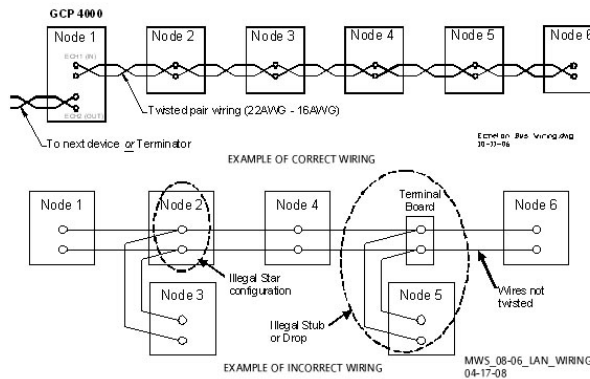

Figure 16: Echelon LAN Wiring Examples
- Each connection (node) must be wired in a daisy-chained bus configuration, no drops allowed (see Figure 16).